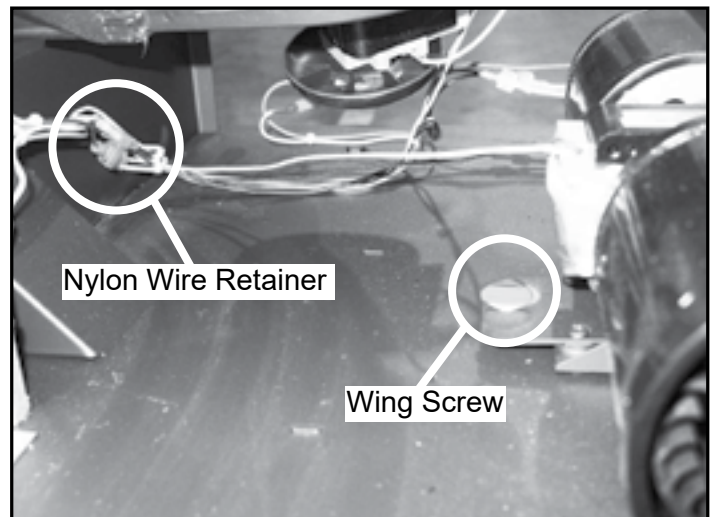
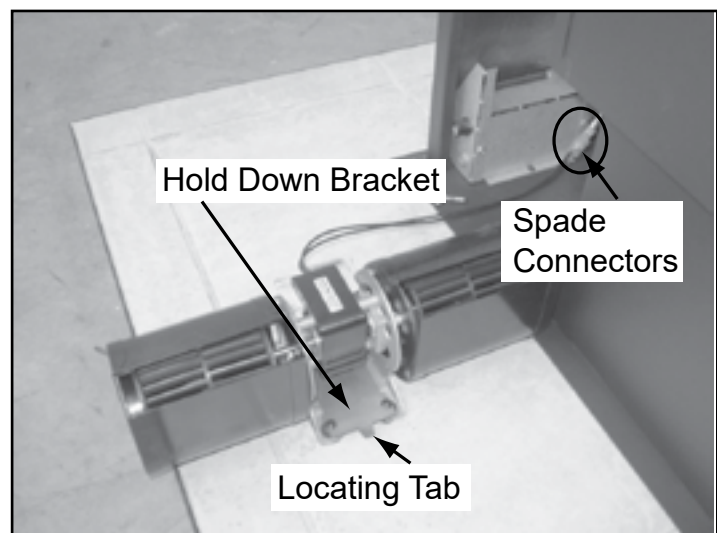

Figure 24.3
Figure 24.4
7. Remove the wing bolt and move the blower and hold-down bracket toward the back of the appliance to release the locating tab (**Figure 24.3**). Pull the blower out from under the convection plenum. Slide the blower out of the appliance. Disconnect the wires from the spade connectors at this time (**Figure 24.4**).
8. Return wires to nylon wire retainer. Make sure wires do not contact any moving parts or touch any surfaces that may become hot (**Figure 24.4**).